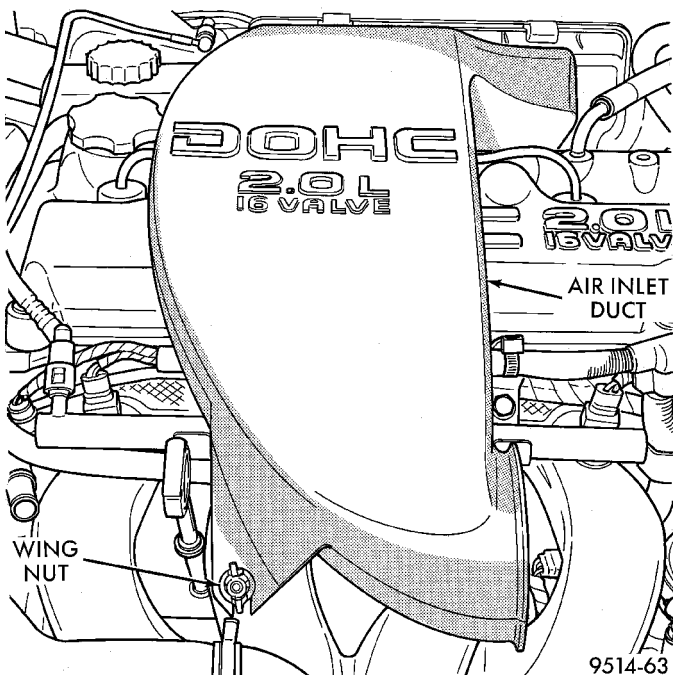

Fig. 96 Air Inlet Duct—DOHC
- (1) Remove air inlet duct wing nut and duct from intake manifold (Fig. 96).